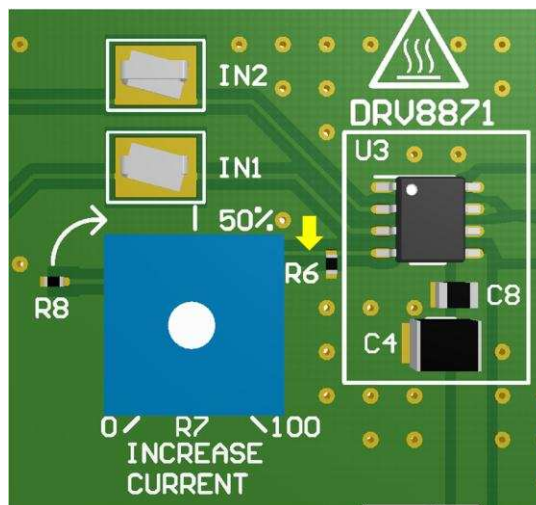

Figure 13. Current Control (R6)
1. Either remove potentiometer R7, or cut the trace between R7 and R6 as shown in Figure 13.